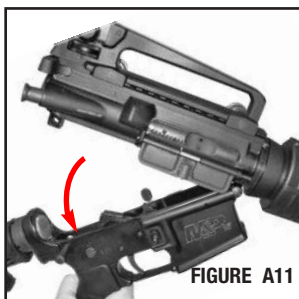

FIGURE A11
- Tip upper receiver open as instructed previously (FIGURE A11).